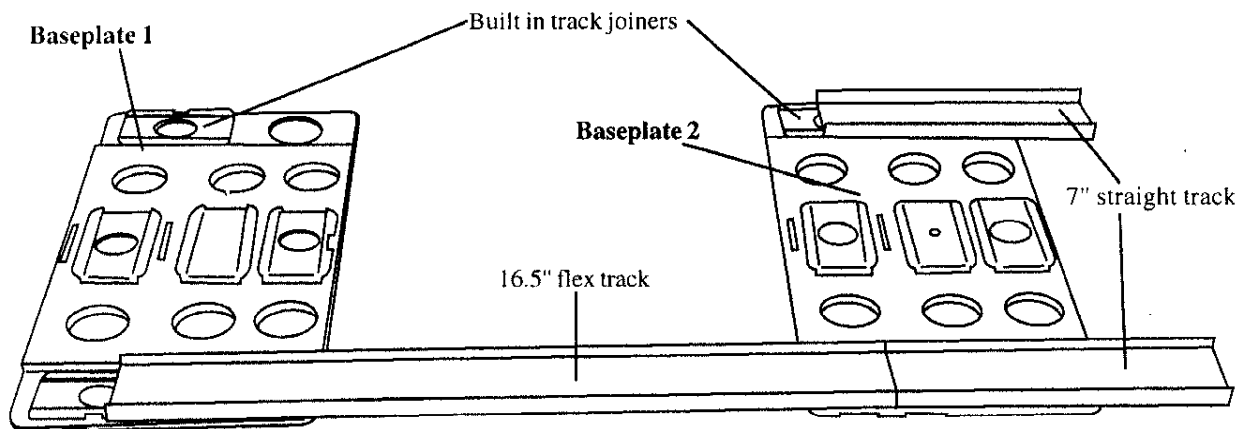

FIGURE 1
Refer to figure 1
- Position the **large baseplates** as shown in **figure 1**. Attach a **7" straight track** to the built in track joiners on either end of **baseplate 2** by sliding one end of each of the **7" straight tracks** over half of the built in track joiners.
- Next, connect the baseplates using the **16.5" flex track**. Attach the flex track in the same way as the straight track. Your track should now look like **figure 1**.